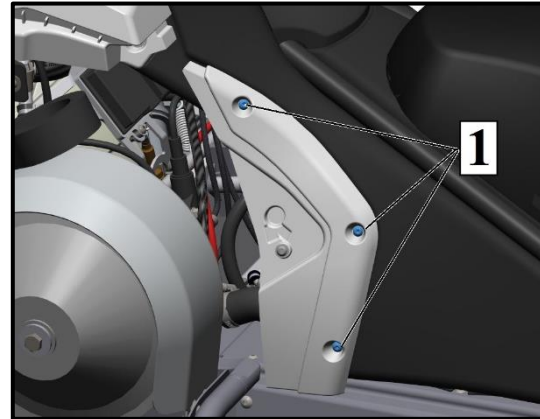

Fig. 11
3. Unscrew 3 screws (pos. 1, Fig. 11) of the left plastic lining of the fuel tank. Tightening torque - 3.5 N * m